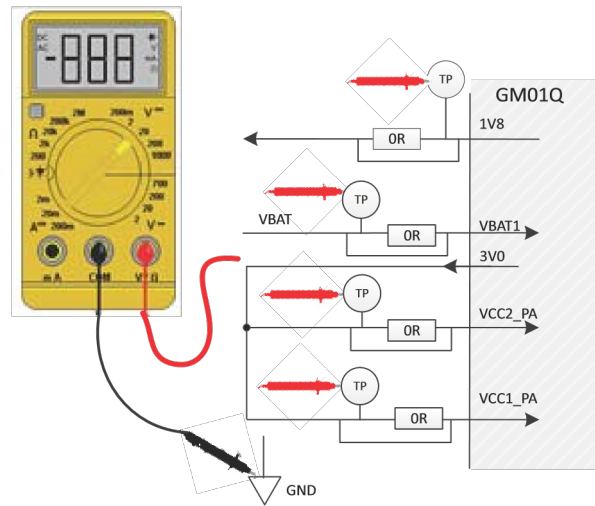

Figure 3-2. Measuring Voltage Value (RYZ014A)
Check at each voltage test point, as illustrated on Figure 3-2, that the voltage value corresponds to what is expected. The value of VBAT1 must be in the range specified in the RYZ014A Datasheet, section Electrical Operating Conditions.
2. Confirm voltages of the power supplies remain in line with the specifications from the datasheet. See the test points involved on Figure 3-2.